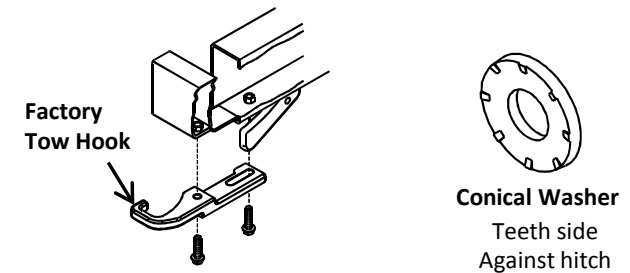

Figure 2.
- 1. Remove Air Dam** – using a 10mm socket, remove (10) screws from air dam, (8) along the bottom and (1) in each corner from underneath.
- 2. Remove Tow Hooks** – If present, using a 17mm socket, remove (2) bolts from each tow hook. Return tow hooks and bolts to vehicle owner. **NOTE:** To remove the forward tow hook bolts, remove the plastic panel located on front of bumper, using a 17mm box end wrench, remove the bolts, or use a socket extension and a swivel to remove bolts from behind bumper. **Figure 2.**
- 3. Remove Splash Guard** – using a 12mm socket, remove (7) bolts and remove splash guard.
- 4. Remove Impact Beam** – **NOTE:** Be sure to support the impact beam before removing the bolts. Using a 16mm socket, remove the (2) rearmost bolts holding impact beam to bottom of frame. Using a 12mm end wrench, remove (2) forward bolts located on the side of the frame, behind the bumper support bracket.